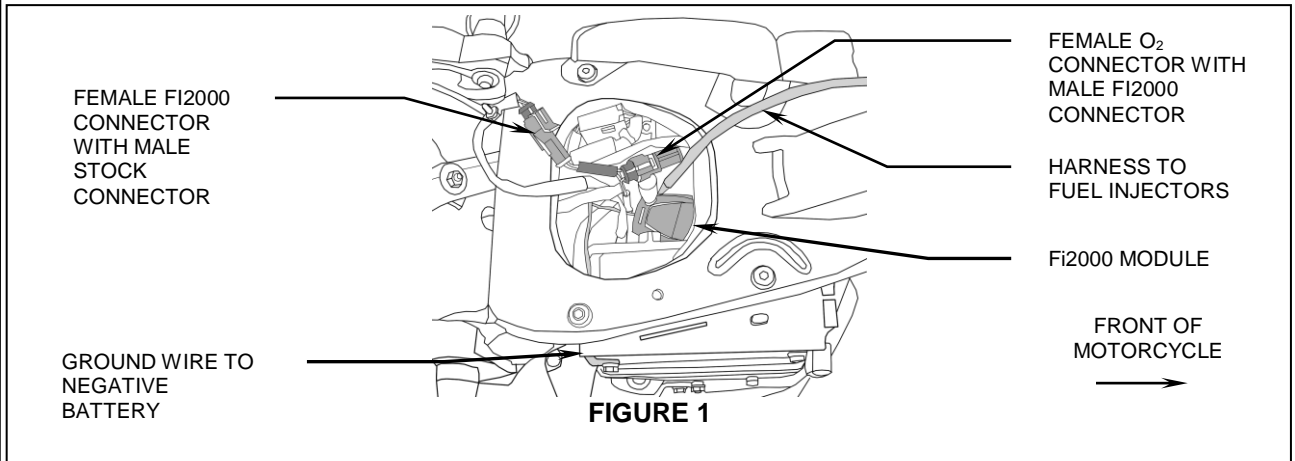

FIGURE 1
3. Lay the Fi2000R module in the area underneath the seat, do not attach it to the motorcycle, route the fuel injector harness forward up the left side of the frame using the plastic harness protector and across to the right side just ahead of the rear cylinder head, See Figure 1. Route the forward set of connectors under the upper motor mount.
7. It is now time to install the oxygen sensor harnesses. Cut the factory zip-tie holding the rear fender wire harness to the ECU bracket and pull that harness up and out of the way, see Figure 1. Reach down and pull the remaining wiring up and out of the space between the battery box on the right and the ECU electrical box on the left. Feed the longer of the two oxygen sensor harnesses down between the rear fender and the frame. Pull the harness from underneath and route it just ahead of the swingarm, then down just behind the rear master cylinder so that the harness ends up coming out at the bottom of the bike. Route the O₂ sensor harness forward along the right frame rail and stock harness with the Fi2000 O₂ connectors ending up by the front of the engine.
10. Locate the black waterproof connector in the wire harness bundle that was tucked down into the open area under the seat, see Figure 1. Unplug the female connector that comes from the rear oxygen sensor, and mate it with the male connector from the shorter Fi2000 O₂ sensor harness. Mate the stock male connector with the female Fi2000 connector.
11. Before re-installing the gas tank, seat and air cleaner assembly, verify your connections. Remove the door from the Fi2000 box to expose the LED's. Verify the wire connections by (1) turning the ignition on, prior to starting, and see if all three LED's are on steady. If you have no light, your ground connection (BLACK wire) has not made proper contact or your front injector connection is not complete. (2) After achieving a steady light from all three LED's, start the motorcycle, wait 15 seconds and let it idle, the green light should now be the only LED on. If all three LED's are still on after start up, verify you have attached the injector connectors correctly. Reattach the door when finished. **Note:** Make sure the ignition is turned off before changing any connection.
12. Remove the backing from the Velcro and attach the Velcro pad down between the back of the battery and the ECU on the flat area of the frame. Apply the mating Velcro to the back of the Fi2000R and attach, see Figure 1. Replace the rear fender wire harness above the Fi2000R.